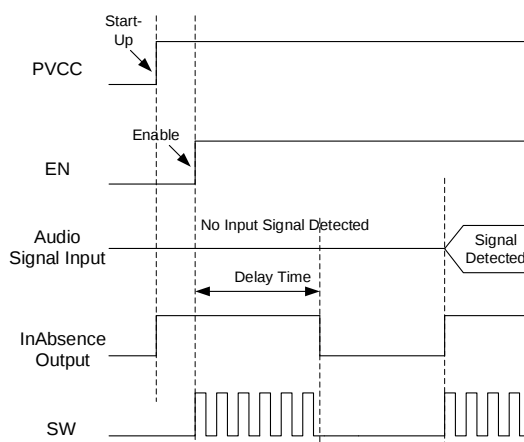

Figure 2: Enable On (No Signal Detected)
- The input absence flag is initially high at start-up. After the device is enabled, the internal circuit starts to detect the input signal. The MP7758 holds the output report and normal operation for a delay time. This time can be adjusted by the CAP_D capacitor. Then the MP7758 turns off all the MOSFETs. The input absence output is pulled low until the input signal is detected again (see Figure 2).